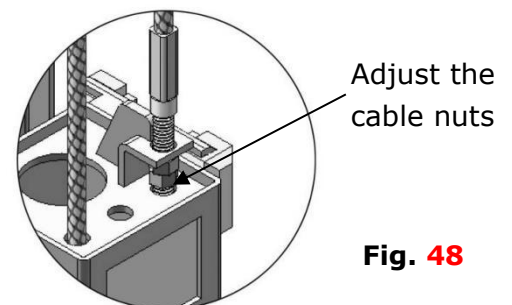

Fig. 48
1. Adjustment of sync cable (See Fig. 48)